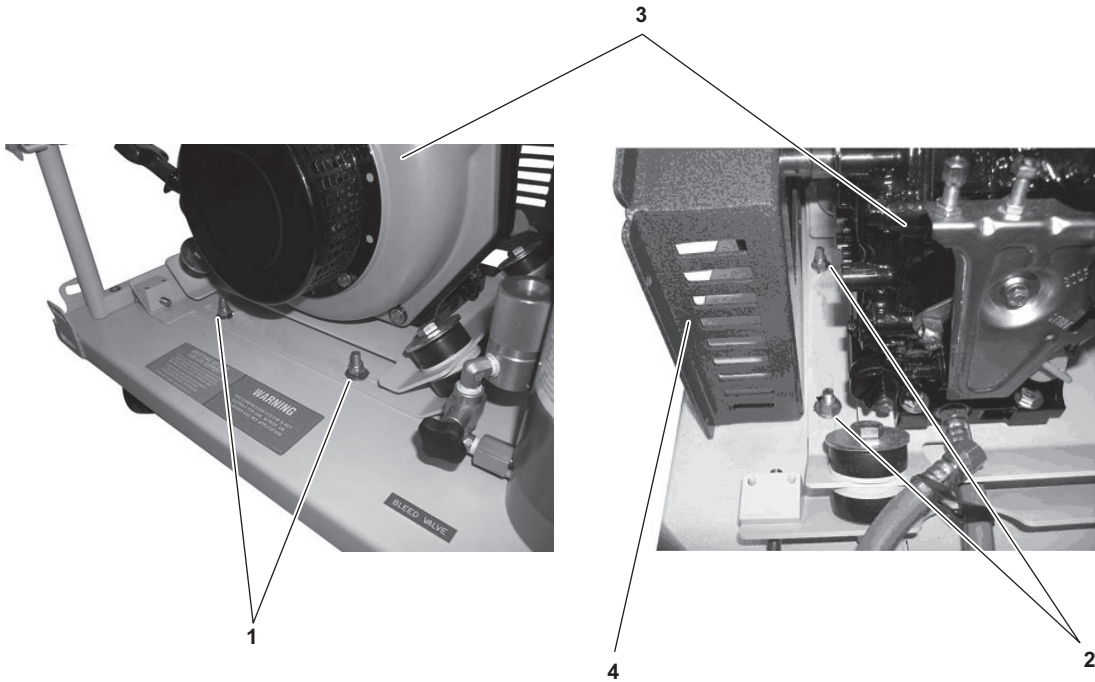

Figure 6-4. Location of Nylon Hex Nuts
- (1) Ensure that the diesel engine is shut down and that the START/STOP control knob is in the STOP position.
- (2) Remove the outer belt guard IAW procedures in paragraph 6.4.1.b.
- (3) Using a 9/16 inch wrench, loosen but do not remove the four nylon hex nuts (figure 6-4, items 1 and 2) that secure the engine base plate to the frame. Two nuts (figure 6-4, item 1) are located in front of the engine (figure 6-4, item 3) and two nuts (figure 6-4, item 2) are located between the engine and the outer belt guard (figure 6-4, item 4).